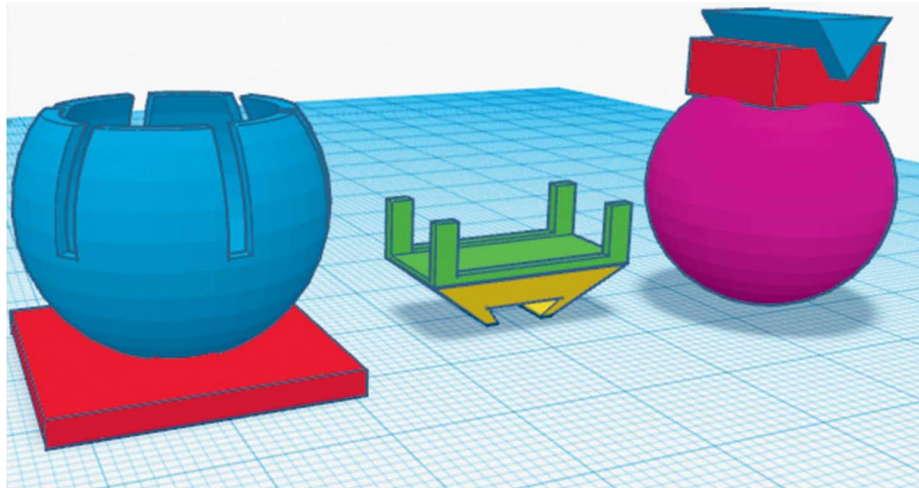

FIG. 7: Positioning the camera holder parts for 3D printing.
8. The socket/notch in the dovetail joint mate and the tail on the handle (fig. 7) are created using the dovetail joint creation steps in Lab 13 (shown here).